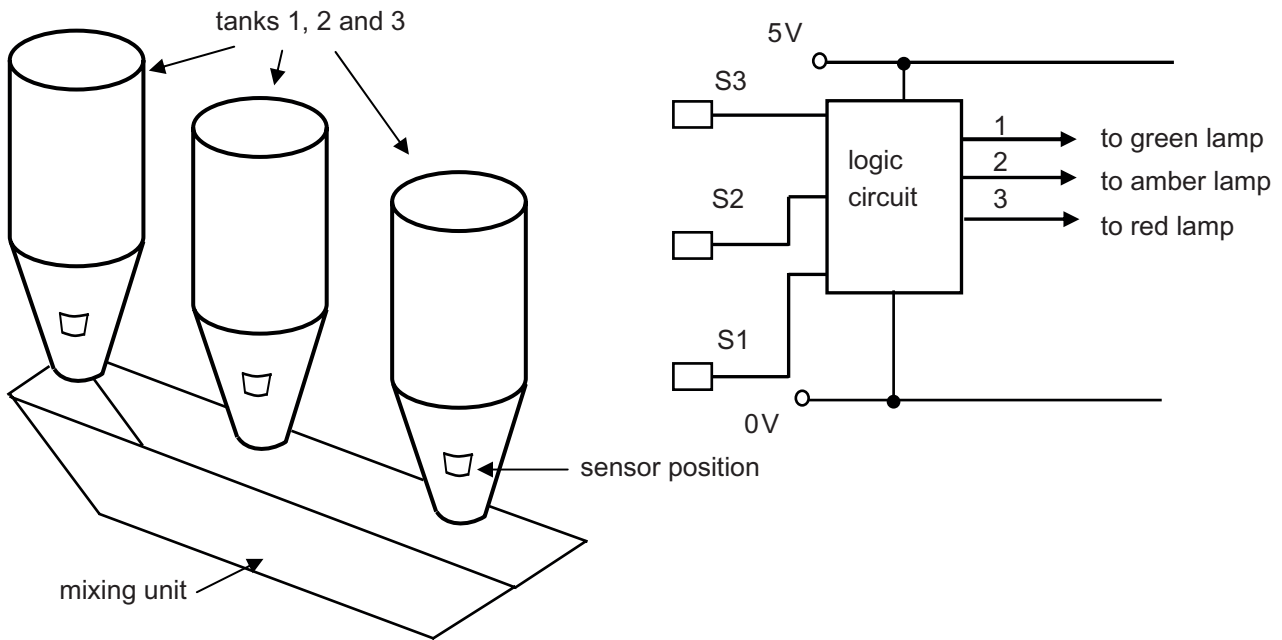

Fig. 2(a)
2 **Fig. 2(a)** shows part of a proposed system which consists of 3 tanks that supply powdered chemicals to a mixing unit. The levels in the tanks are indicated on coloured lamps which can be checked by an operator. The levels in the tanks are detected by 3 sensors S1, S2, and S3 as shown in **Fig. 2(a)**. Each sensor outputs logic “0” when the powder levels are satisfactory and a logic “1” when low. A green coloured lamp will be illuminated if all tanks are sufficiently full. If any one tank has a low level an amber lamp will illuminate and if any 2 or all 3 tanks have low levels a red lamp will be illuminated.
- (a) (i) The sensors to be used to detect the levels in the tanks in **Fig. 2(a)** should not come into direct contact with the powder. Describe, with the aid of a diagram a suitable sensor that could be used for this purpose. [2]